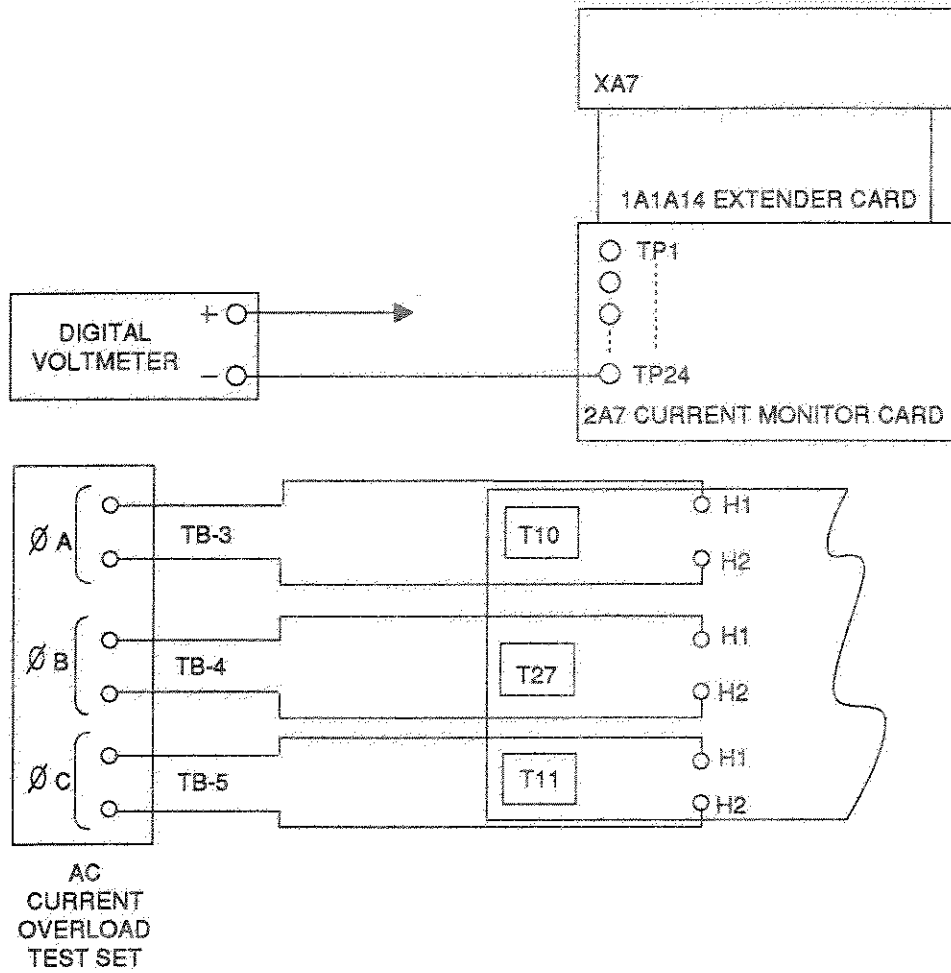

Figure 6-106.5. IPA AC Current Overload Test.
10. On AC current test set connect one end of a phase A lead (W1) to T10H1 using 10-32 nut. See Figure 6-106.5.